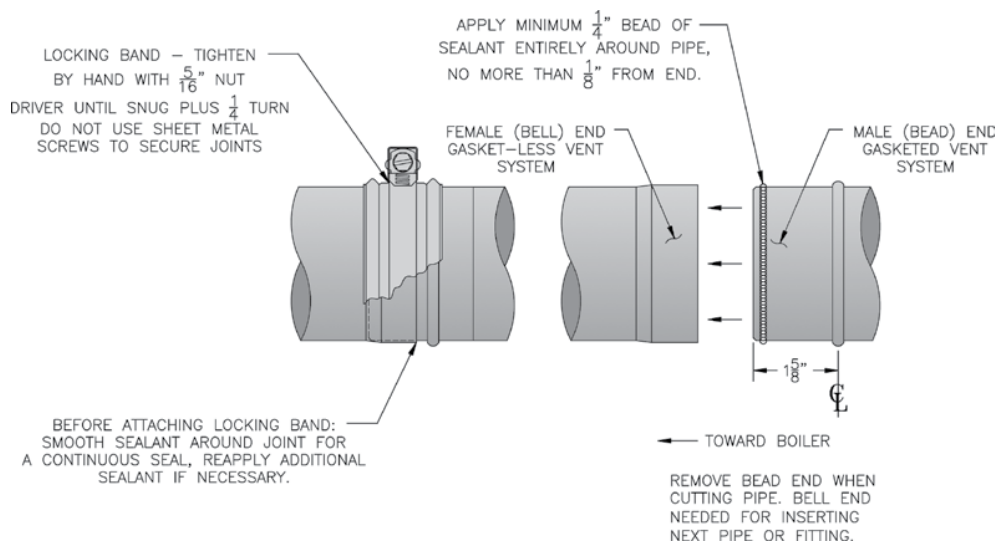

Figure 3D: Burnham Gasket-Less Female and Gasketed Male Vent Joint Detail
2. Procedure for joining the female end of Burnham Gasket-Less Vent with the male end of Burnham Gasketed Vent. See Figure 3D.